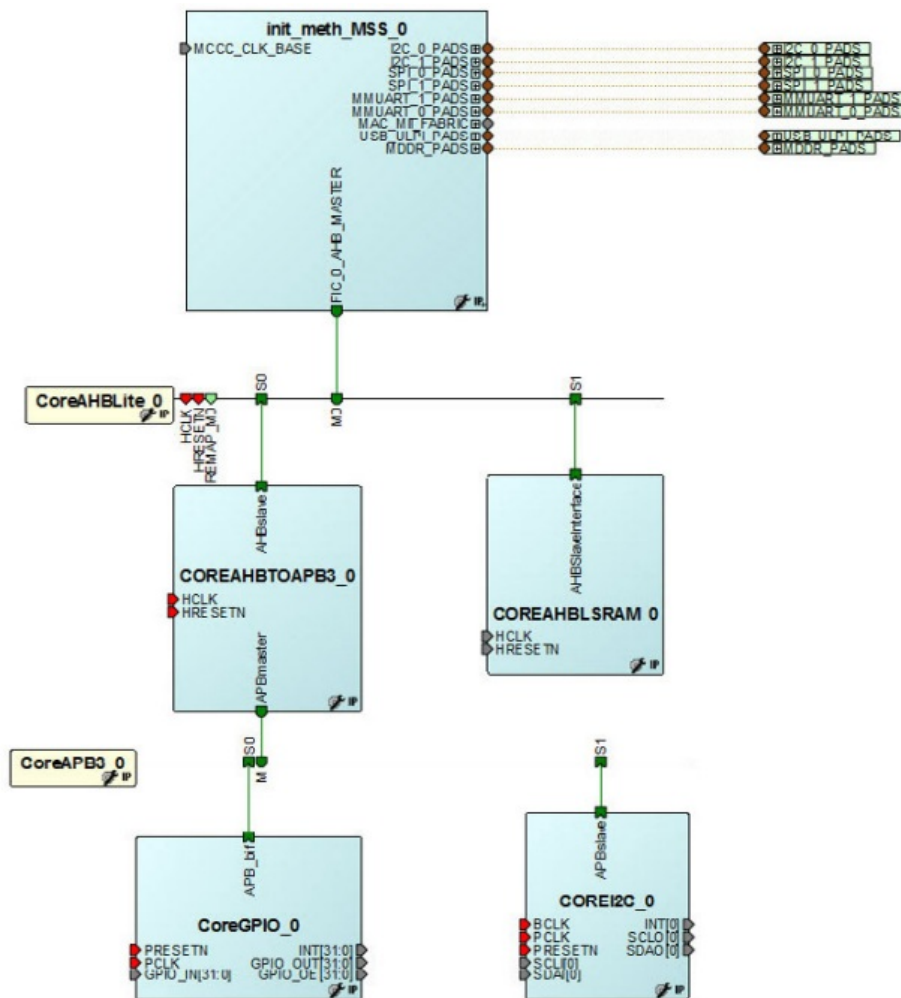

Figure 5-6 • FIC Master/AHBLite Sub-System
- Connect the CoreAHBLite mirrored-master Bus Interface (BIF) port M1 to the MSS master BIF port – FIC_0/1_AHB_MASTER – as shown in Figure 5-6.